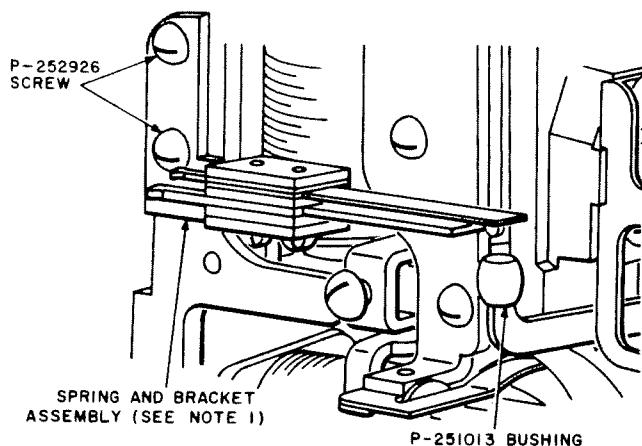

Fig. 3 — Vertical Interrupter Spring and Bracket Assembly and Associated Parts Used With Vertical Armature Assembly Having Vertical Armature Arm
NOTES (For Fig. 3, 4, and 5)
1. When replacing the vertical interrupter spring and bracket assembly of the type shown in Fig. 3, order the following parts:
NOTES (For Figs. 3, 4, and 5) (Cont)